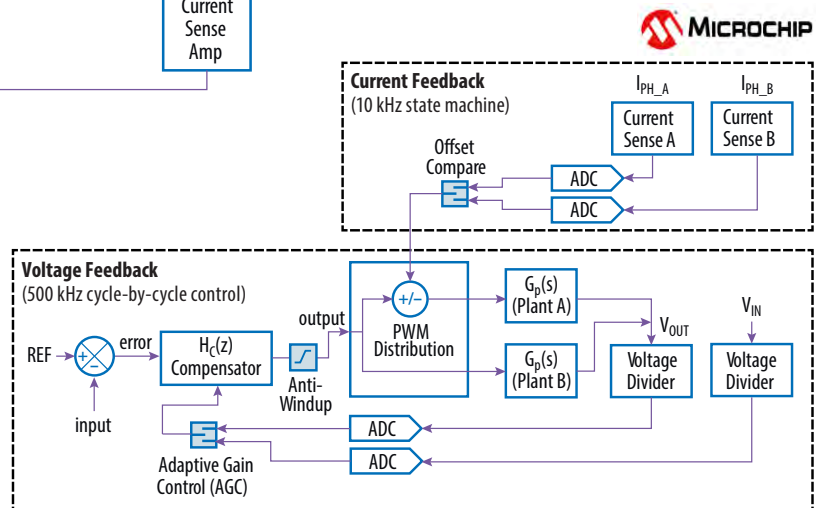

Figure 15. Interleaved buck converter advanced voltage mode control
- **Adaptive Type IV Voltage Mode Control (AVMC) with featuring Adaptive Gain Control (AGC) and Phase Current Balancing PWM Steering (figure 15):** The second, alternative firmware is tailored to intermediate bus converter module applications in power distribution networks (PDN). The major focus of this firmware lies on reducing PDN segment decoupling capacitance by maximizing the control bandwidth and the output impedance tuning capabilities, enhancing system robustness while minimizing cost.